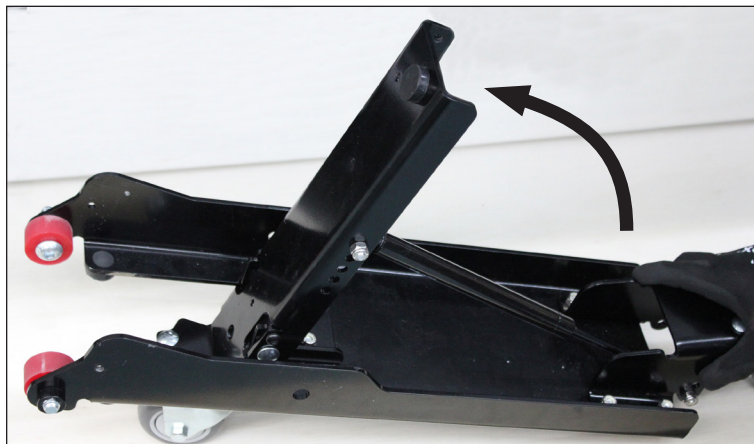

Figure 6: Lift Pivot Arm
4. Holding the caster base steady with one hand, slip a couple fingers of your other hand under the caster base pivot arm and lift up until it is fully extended. Refer to **Figure 6**.